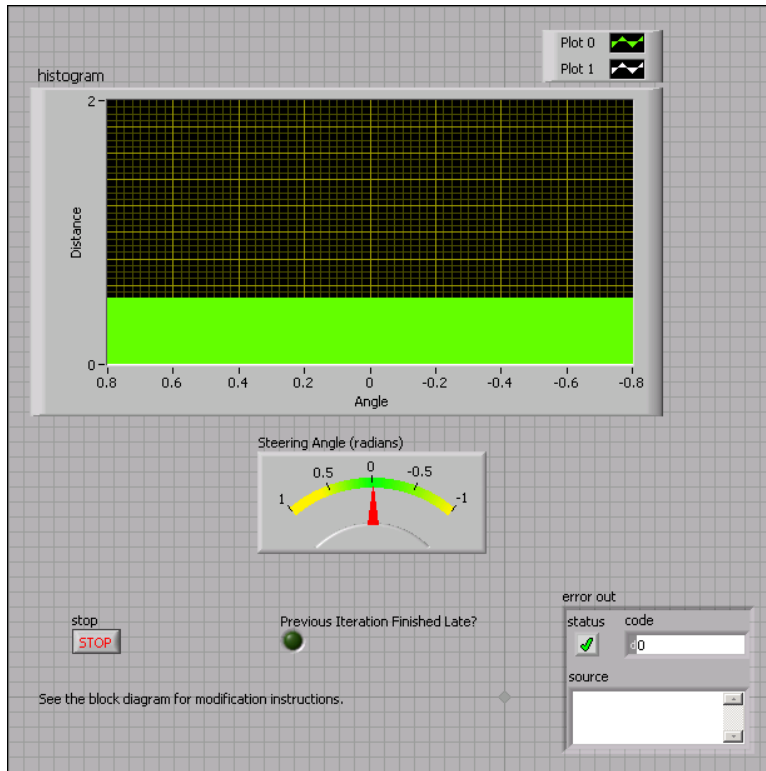

Figure 9. Front Panel of the Single Control Loop (Simulated) VI
3. Select **Window»Show Front Panel** to display the front panel of the VI, as shown in Figure 9.